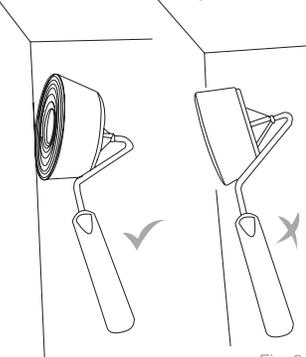

Fig. 9
8. When painting, ensure that the Edger head is tilted at an angle from the adjacent wall. The sponge portion should be seated fully on the painted wall (Fig. 9).